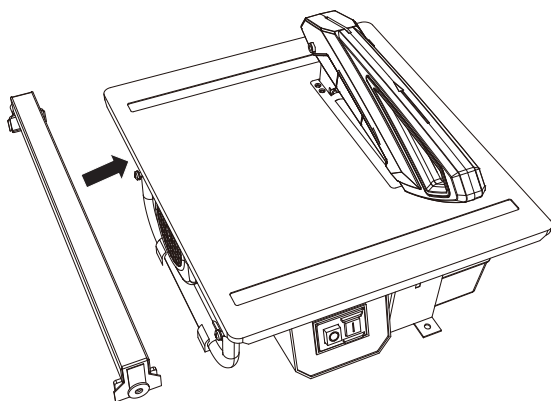

Figure 4
3. FITTING THE PARALLEL GUIDE (SEE FIG. 4, 5, 6)